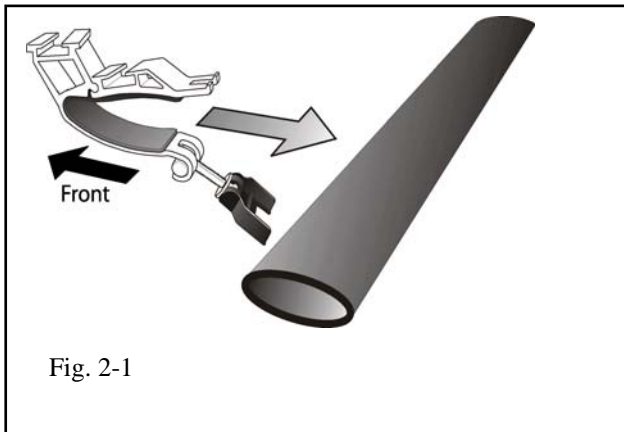

Fig. 2-1
- (a) Open an Adaptor Assembly and slide it on one the vehicle Roof Rack Cross Bars with the opening facing backwards. (Fig. 2-1)